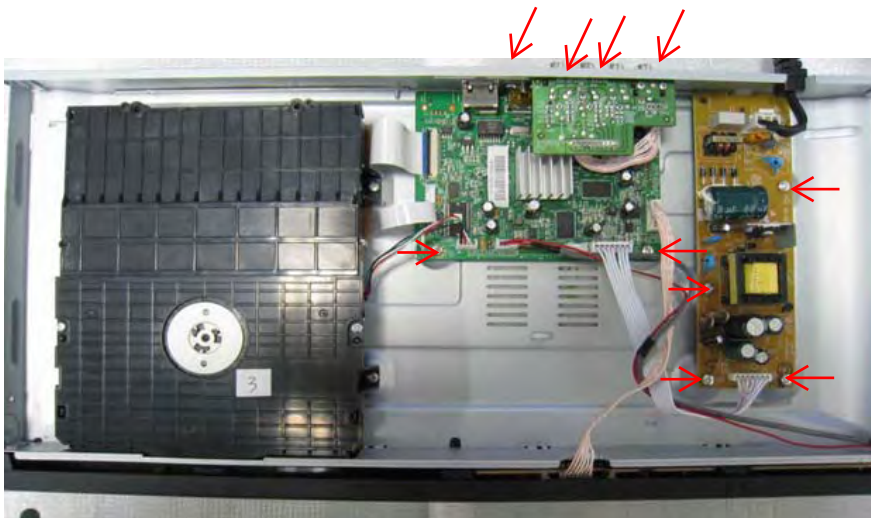

Figure 6
**Step6:** Dismantling Main Board , first disconnect the connector (J1), and then remove 3 screws. (Figure 6)
**Step7:** Disconnect connector (CN504) and remove 4 screws on Power Board to dismantle the Power Board. (Figure 6)
**Step8:** Disconnect connector (XP3) and remove 3 screws on AV Board.(Figure 6)